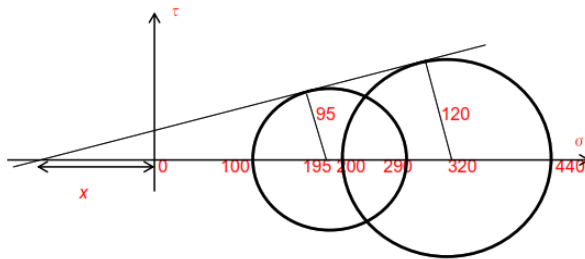

**Fig. 5:** Water flow through soil layer
6. Draw water flow net in the soil layer in **Fig. 5. (5 points)**